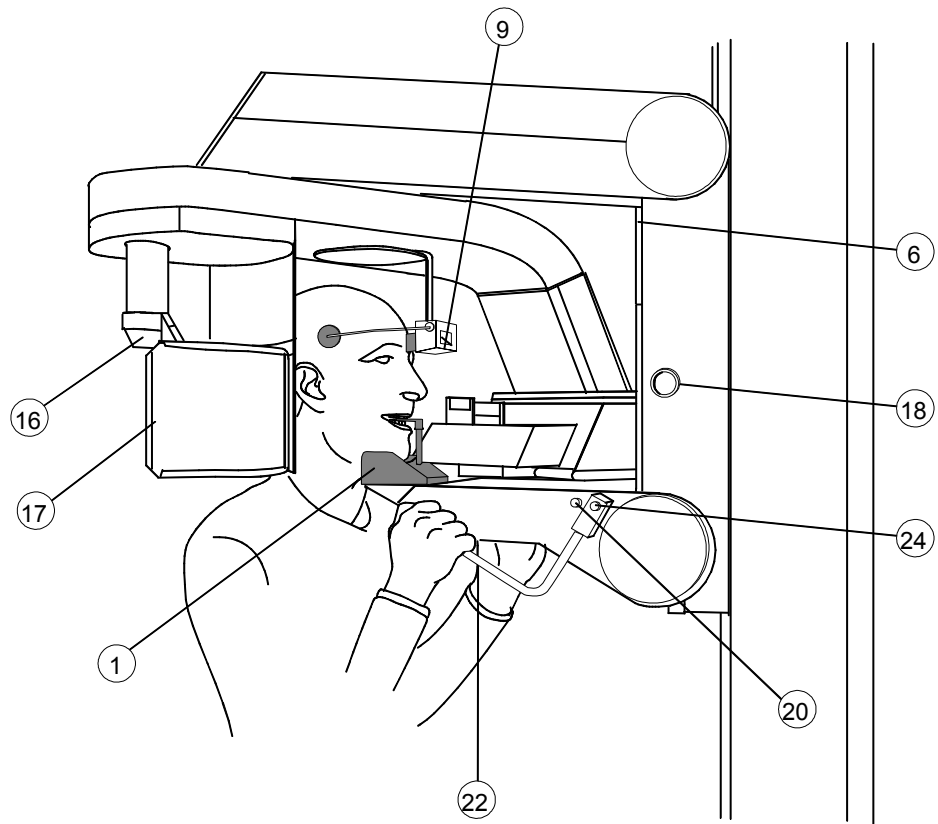

Figure 2: Panoramic position
6.2.3 Preparing the patient (refer to Figure 2 and Figure 3)